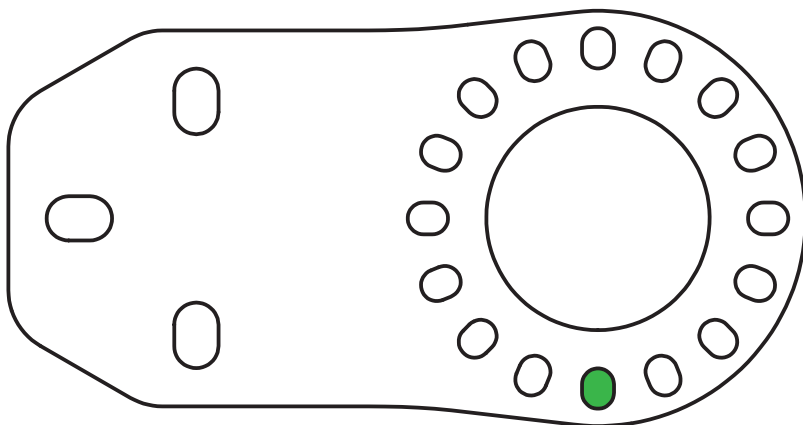

Figure 4 - Bracket Hole for Catch Can
7. Position the catch can pin into the bracket hole shown in Figure 4.